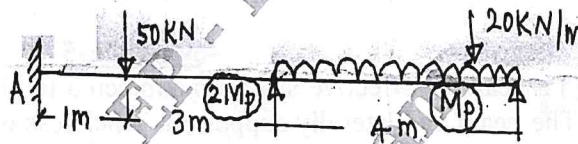

Fig Q2(b)
- b. Analyze the continuous beam ABC shown in Fig Q2(b) and calculate maximum plastic moment. Consider load factor as 1.5.